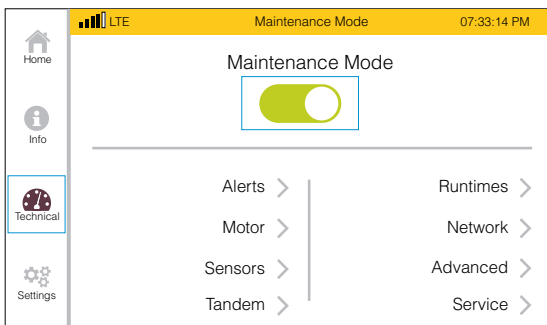

FIGURE 55. ENABLE MAINTENANCE MODE
2. On the control panel LCD display, go to the Technical screen. Press and enable **MAINTENANCE MODE** (FIGURE 55).